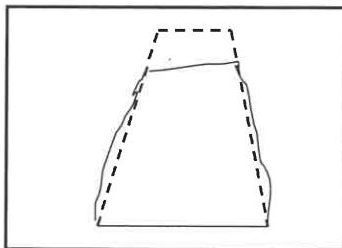

FIGURE 4.4
4.4 FIGURE 4.4 below shows the outcome of a test carried out on concrete.